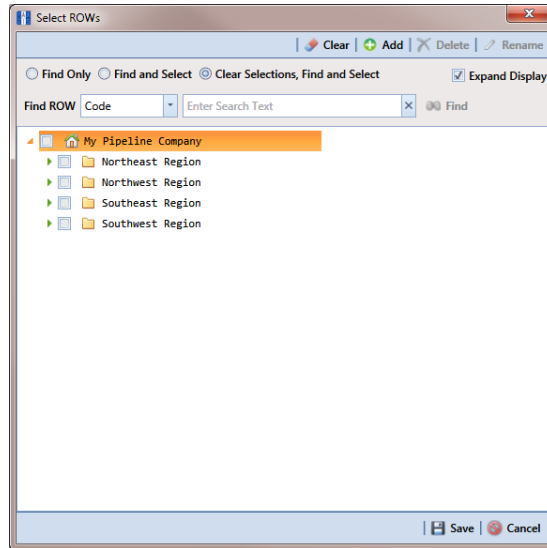

Figure 9-2. Select ROWs
- 1 Click the **Select ROWs** button  to open the *Select ROWs* window (Figure 9-2, page 420). Select one or more pipeline segments by clicking the check box for each pipeline segment. Click  **Save** to close the *Select ROWs* window.
- 1 Click the **Select ROWs** button  to open the *Select ROWs* window. Select one or more pipeline segments by clicking the check box for each pipeline segment (Figure 9-2, page 420). Click  **Save** to close the *Select ROWs* window.